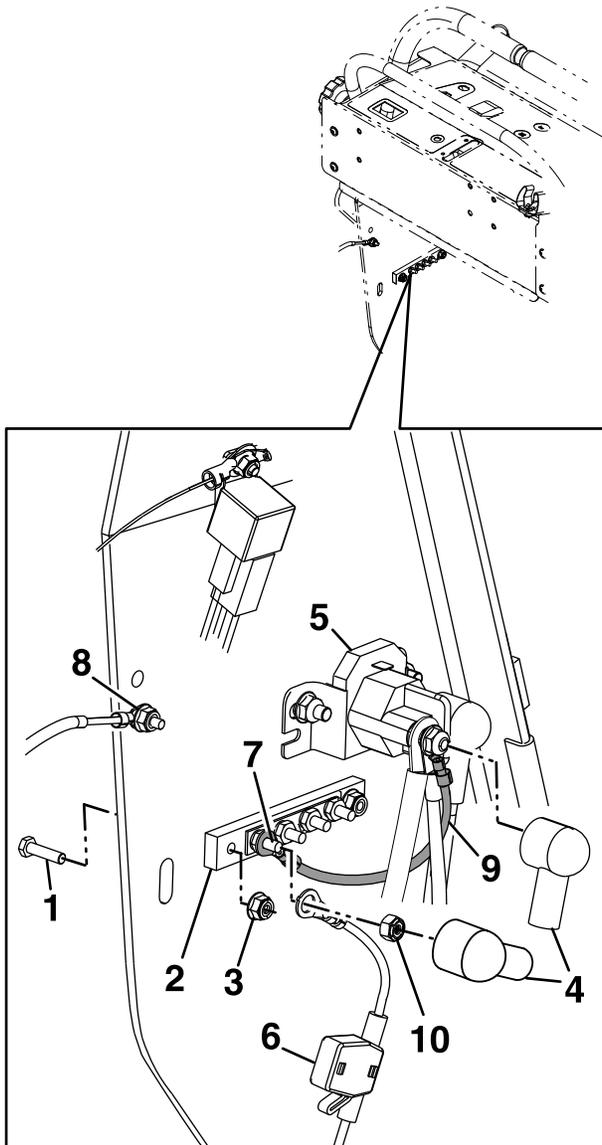

Figure 6
9. Mount the ground on the RH side of the tower (see item 8 in Figure 6).
11. Insert the other end of the jumper wire and fuse holder harness through the insulator. Place the jumper wire and fuse holder harness onto the relay post and secure with #10-32 UNF inch nut and insulator as shown in Figure 6.